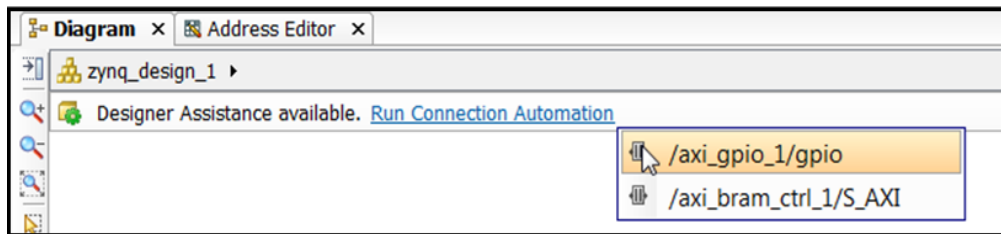

Figure 17: axi_gpio Selection
2. Select **Run Connection Automation** again, and the `/axi_gpio_1/gpio` shown in FIGURE 17.